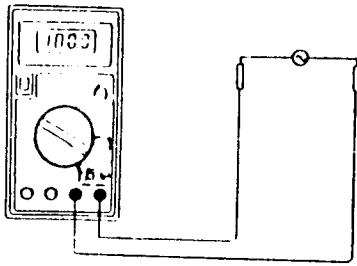

Fig 5-2 AC Voltage measurement
2. Set FUNCTION switch to the AC V range to be used, and connect the test leads across the source or load under measurement. See Fig 5-2.